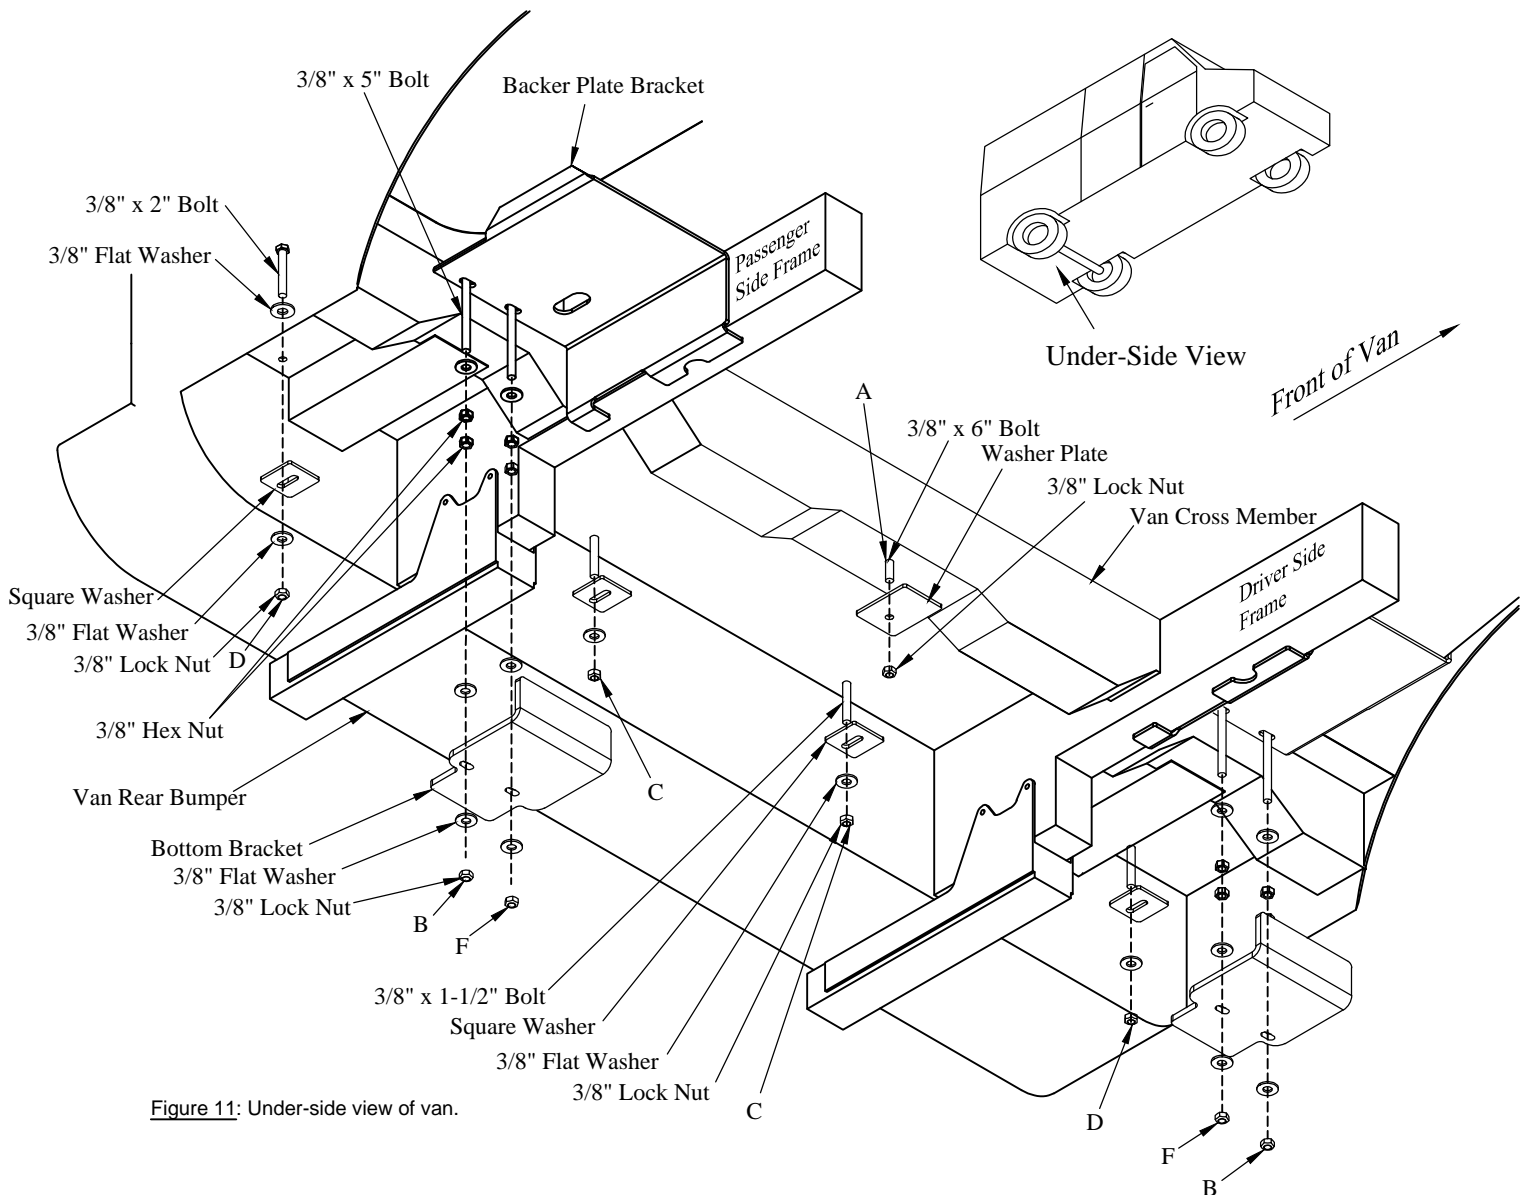

Figure 11: Under-side view of van.
3. Place a 3/8" flat washer on each base plate bolt (Figure 11).
4. Insert base plate bolts into holes in base plate, down through van floor (Figure 11).
- (1) 3/8" x 6" bolt at "A" location. This bolt will be angled to avoid spare tire mechanism.
5. Install square washer, 3/8" flat washers, and 3/8" lock nuts on each of the "C" and "D" location bolts (Figure 11). Do not tighten at this time.
6. Install the backer plate brackets onto the "B" location bolts (Figure 11).
7. Secure backer plate brackets with 3/8" flat washers and hex nuts (Figure 11). Do not tighten at this time.
8. Thread a second 3/8" hex nut onto each of the "B" location bolts (Figure 11). Do not tighten at this time.
9. Insert a 3/8" flat washer and then the bottom bracket onto the "B" location bolts (Figure 11).
10. **Secure** bottom brackets with flat washers and lock nuts (Figure 11).
11. **Install** washer plate on "A" location bolt (Figure 11).
12. **Secure** the "A" location washer plate with 3/8" lock nut (Figure 11).
13. **Tighten** all nine (9) bolts in an alternating pattern.